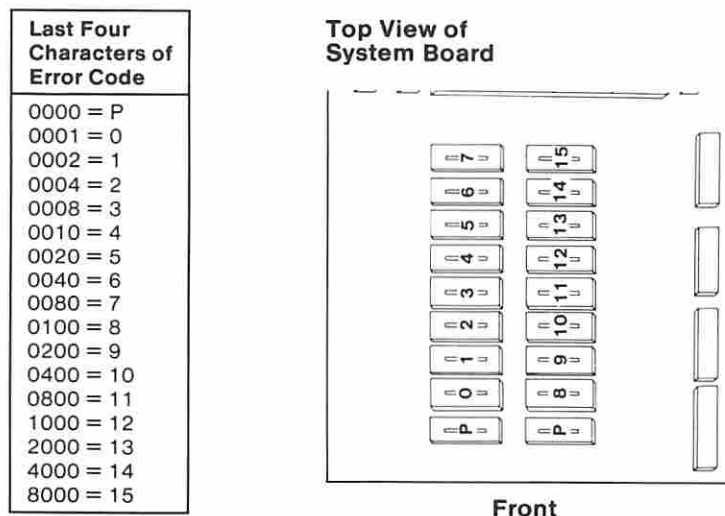

Figure 4. Type 2 and 3 System Board Memory
- Refer to Figure 4 and find the failing memory module identified by the error code.